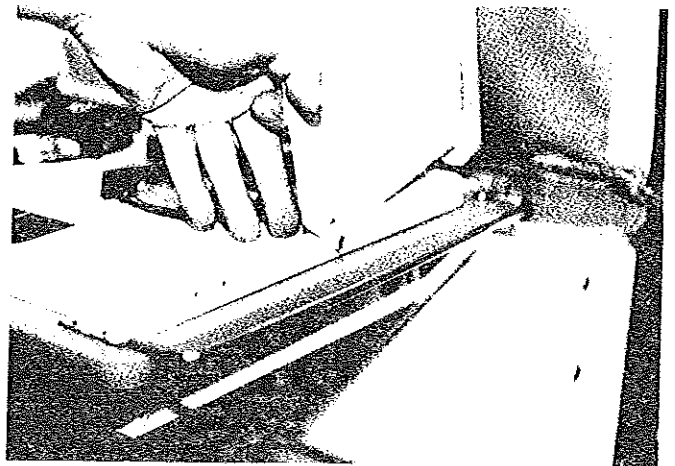

**FIGURE 34**
7. Position the stove mounting bracket removed in Step 6 onto the two retaining loops located on the bottom front of the stove module. Tilt the stove slightly upward and engage the bottom portion of the mounting bracket on to the metal bracket located on the lower section of access door. See Figure 34.
8. Open the compartment door on the curbside body panel and expose gas line. See Figure 34.